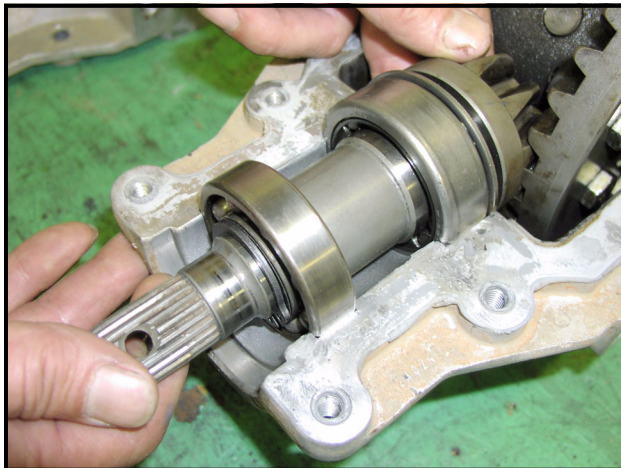

Figure 10-21 Place Pinion Gear In Housing
1. Position the pinion gear assembly into the differential housing, meshing the pinion gear with the ring gear (Figure 10-21, Page 10-9).